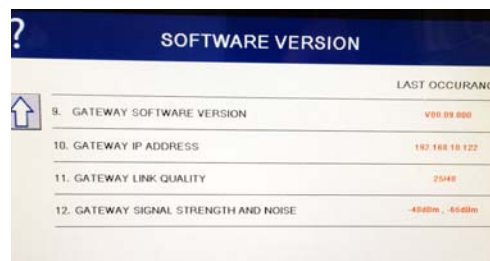

Figure 11
16. The gateway software version and other information is shown (see Figure 11).
- If the UI displays the software version then CAN bus cable is connected and working. If the software version is all zeros (0), the Gateway is not connected or terminated. Otherwise, service person will have to check CAN bus wiring and ensure that wiring is OK and there is CAN bus termination.
- The first number on gateway link quality (refer to Figure 11 and item #11 (Gateway Link Quality) which is shown at 25/40) is the difference between received signal strength and background noise level. This number is called SNR.
- Gateway signal strength and noise (refer to Figure 11 and item #12). Signal strength from -20 dbm to -65 dbm is good connection. Noise level should be below -70 dbm to -95dbm